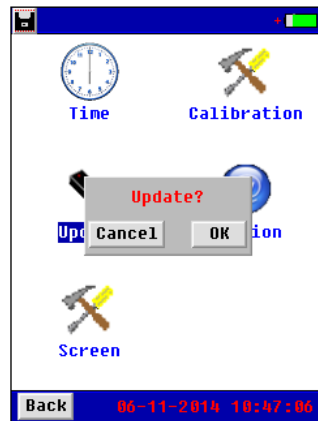

Fig 3.4.3
1. Save the new software in the root directory of USB drive, connect the USB drive with main unit, click “**Update**” under “**System**” and select **OK** (see Fig 3.4.3) You will see the process for update on screen. After update is done, screen will automatically to the starting screen.